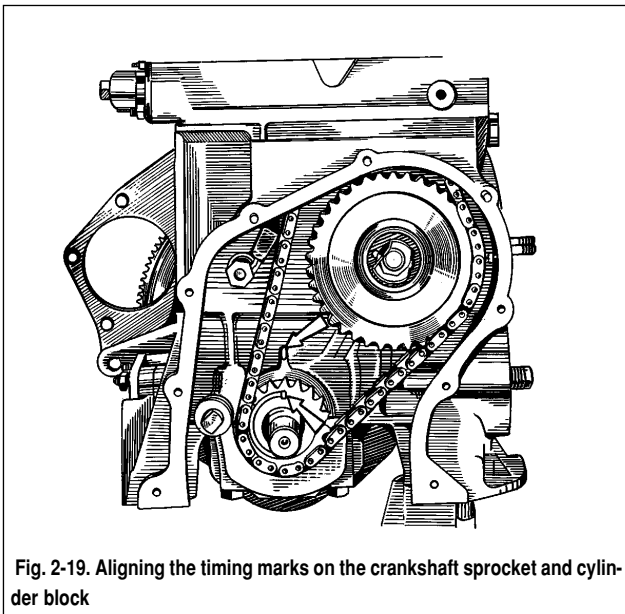
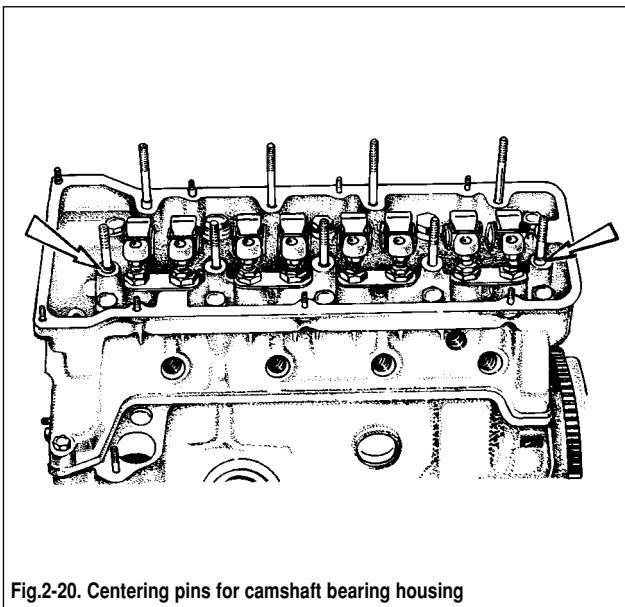
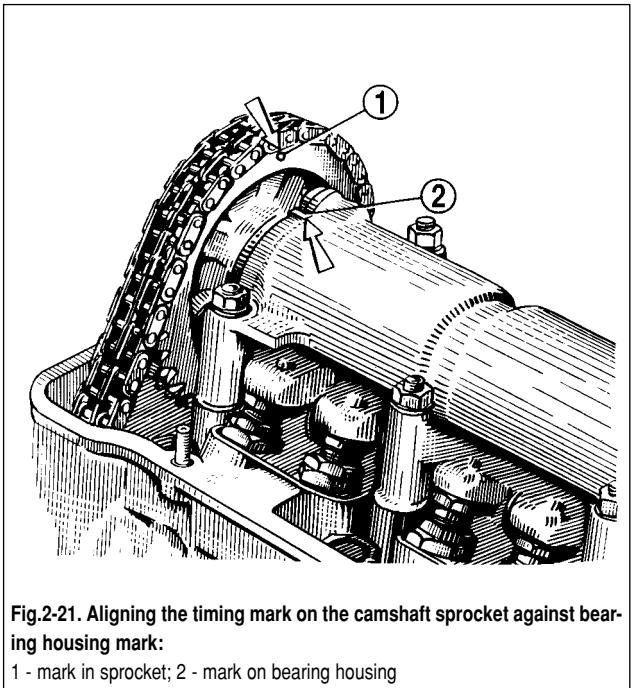
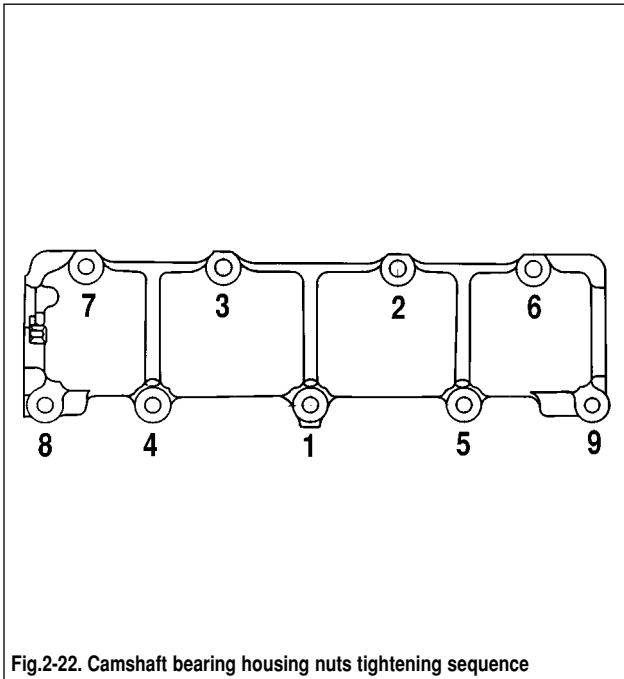

Fig. 2-19. Aligning the timing marks on the crankshaft sprocket and cylinder block
Fig.2-20. Centering pins for camshaft bearing housing
Fig.2-21. Aligning the timing mark on the camshaft sprocket against bearing housing mark:
Fig.2-22. Camshaft bearing housing nuts tightening sequence
Turn the flywheel so that the mark on the crankshaft sprocket is against the cylinder block mark (Fig.2-19).
Check to see the camshaft bearing housing centering pins are in position (Fig.2-20). Refit the sprocket to the camshaft complete with the bearing housing and turn the camshaft so that the timing mark in the sprocket is aligned against the mark on the bearing housing (Fig.2-21). Remove the sprocket and without changing the camshaft position, refit the bearing housing to the cylinder head so that the centering pins are in the respective bores of the bearing housing. Secure the bearing housing, tightening the nuts in the sequence as shown in Fig.2-22.
- fit the chain onto the camshaft sprocket and position the sprocket so its TDC mark is aligned with the respective mark on the bearing housing (Fig.2-21). Do not tighten the sprocket bolt fully;
- turn the crankshaft two turns forward to ensure the chain tension required; check the indentations in the sprockets are aligned with TDC marks in the cylinder block and bearing housing (Fig.2-19 and Fig.2-21);